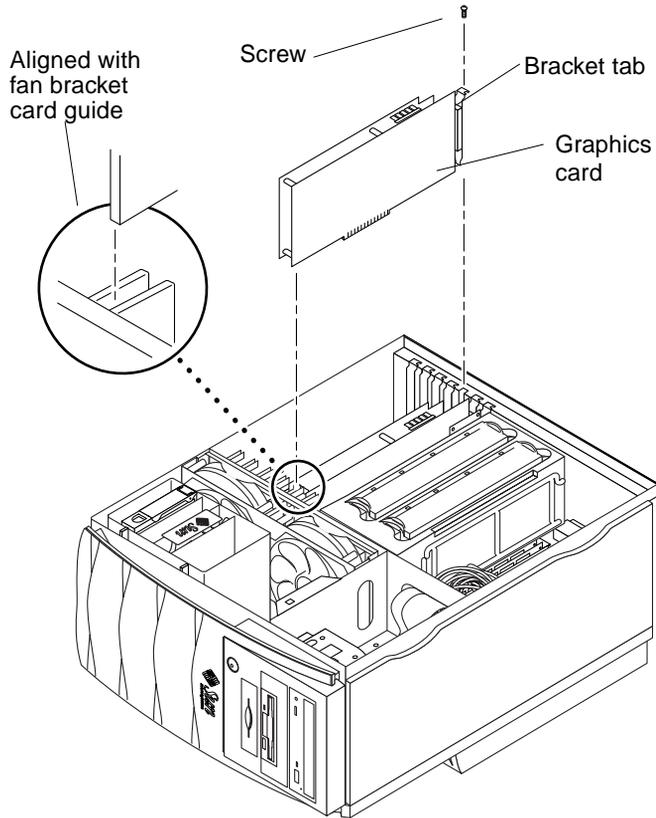

FIGURE 8-3 Removing and Replacing a Graphics Card
4. **Using a No. 2 Phillips screwdriver, remove the screw securing the graphics card bracket tab to the system chassis (FIGURE 8-3).**
1. **Position the graphics card in the chassis (FIGURE 8-3).**